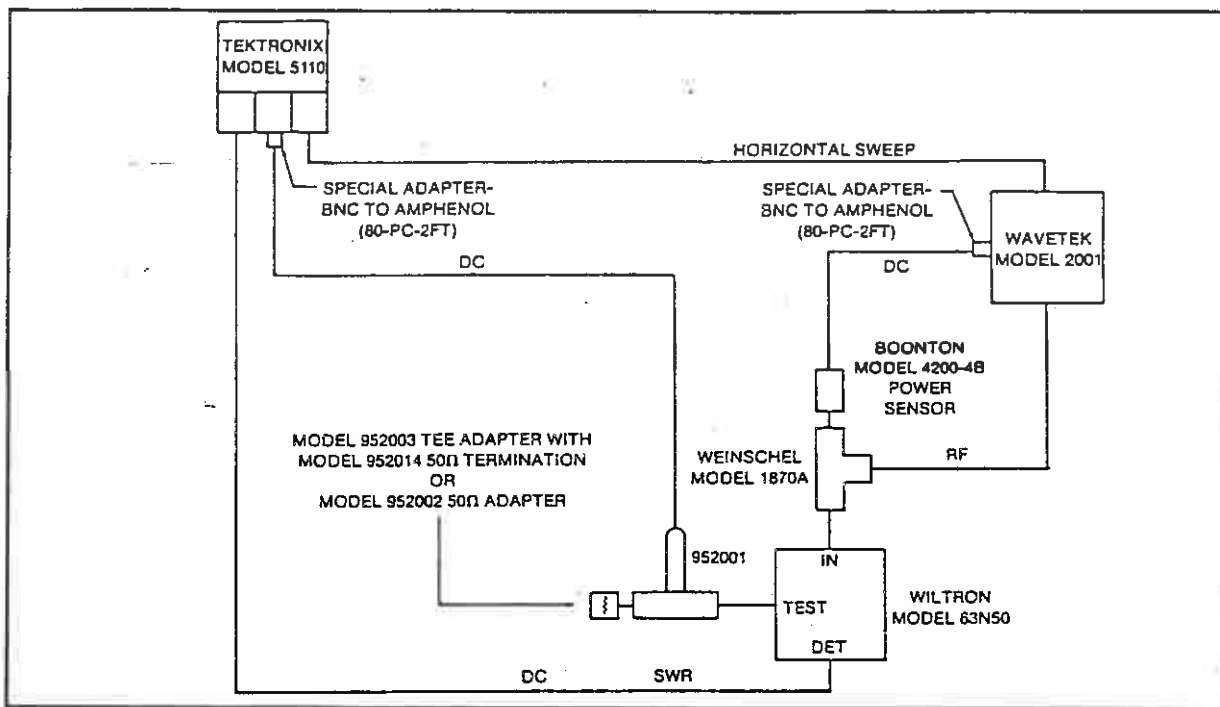

Figure 5-5. Swept Frequency Response Test Setup
1. Connect the equipment as shown in Figure 5-5.